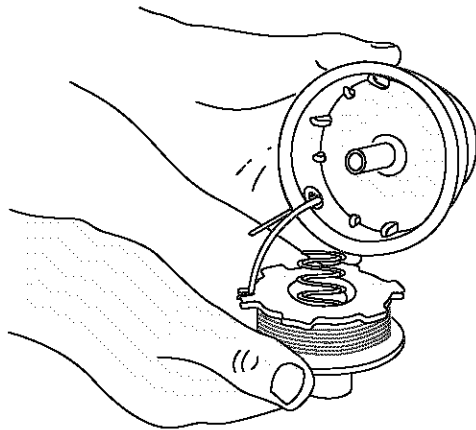

Fig. 15
8. Insert the end of the line through the eyelet in the outer spool (Fig. 15).
5. Insert the end of the line, on the prewound reel, through the eyelet in the outer spool (Fig. 15).